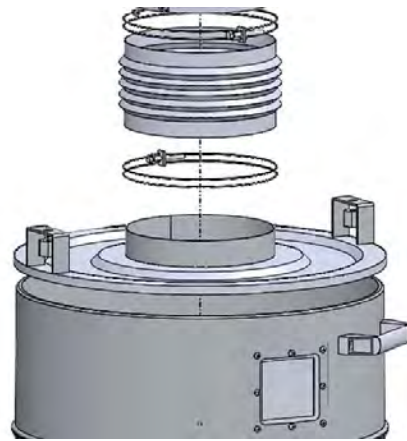

Fig. 12: Mount the container cover
Step 8: Place the cover on the container and connect it to the cyclone funnel with a flexible hose (Fig.12)..